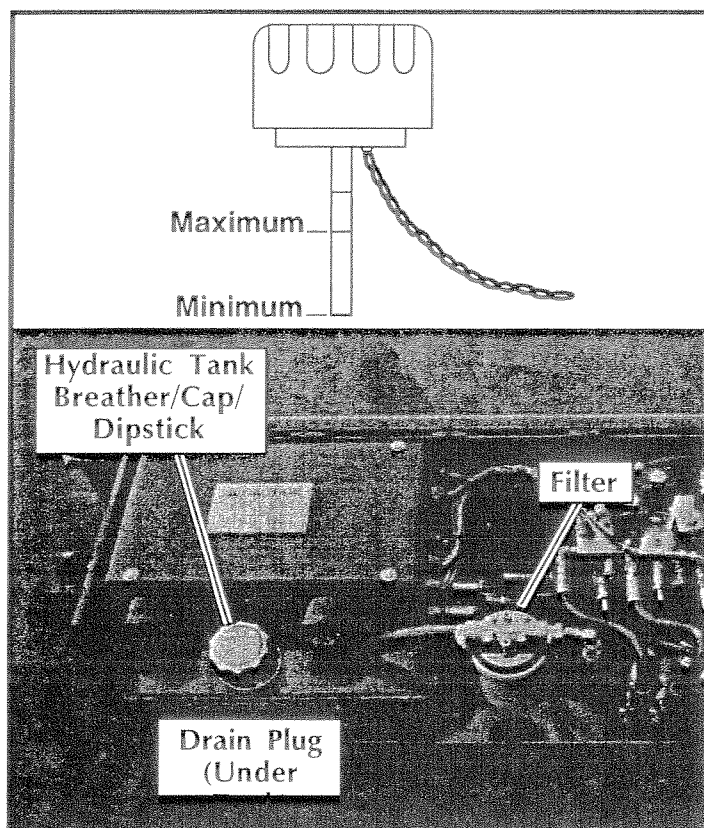

Figure 3-5: Hydraulic Oil Tank and Filter
3.5 Setting Hydraulic Pressures (Figure 3-5)
MAIN RELIEF VALVE (Figure 3-5)